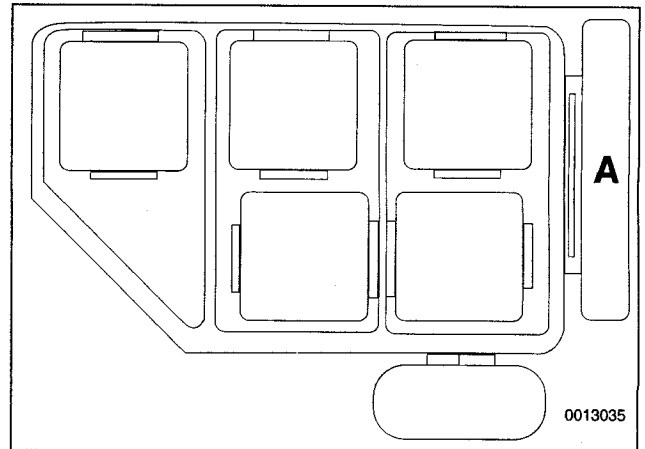

Fig. 25. Position of EWS II transmitter/receiver module (A) on left side auxiliary relay panel.
4. Disconnect harness connector from transmitter/receiver module. Unclip module from panel. See Fig. 25.